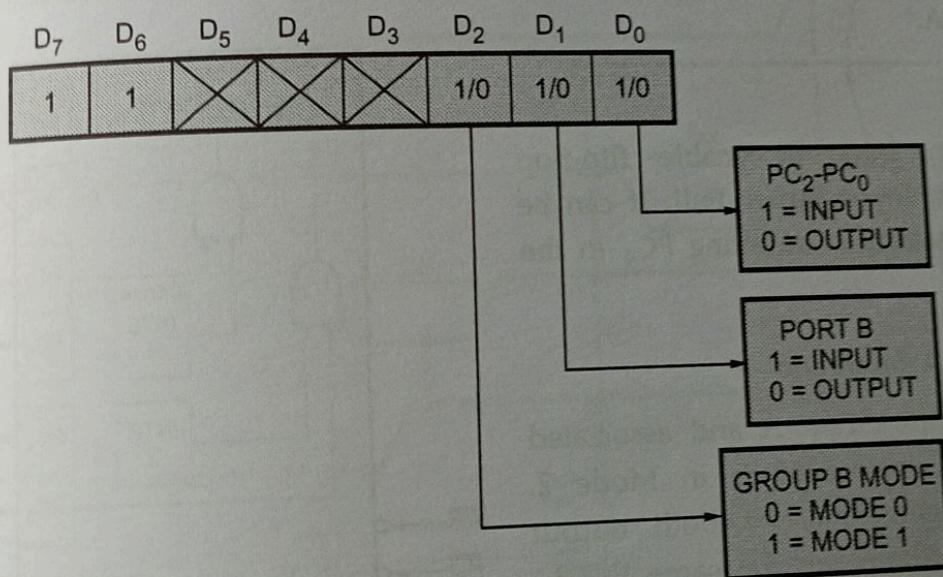

Fig. 3.4.14 Mode 2 control word
- Fig. 3.4.14 shows the control word that should be loaded into the control port to configure 8255 in Mode 2.
however if B is in Mode 1, $D_2 - D_0$ carry information about the control signals for Port B (as in Fig. 3.4.11 or Fig. 3.4.14), depending upon whether Port B is an input port or output port respectively.